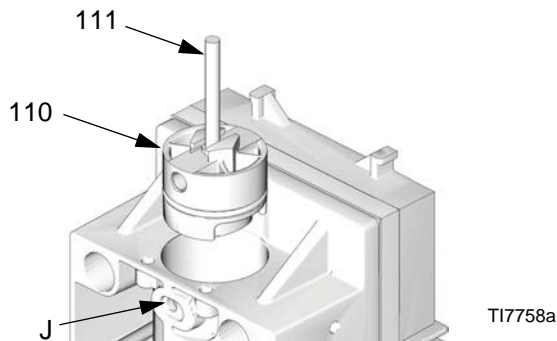

Fig. 10. Remove Piston Stops
3. See FIG. 10. Remove the retainer pins (111) from their holes (J). Invert the pins and slide the heads into the slots on the piston stops (110). Use the pins to pull the piston stops out.